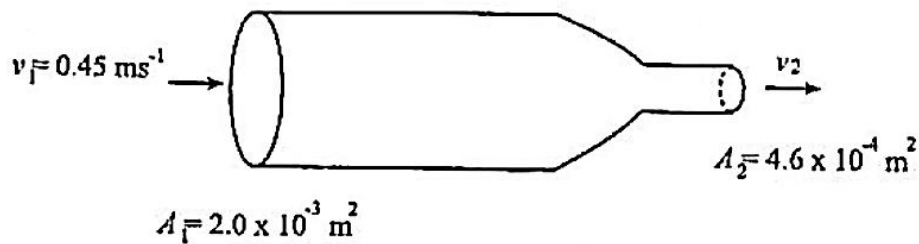

Fig. 4.1
- (ii) The end E of the tube in Fig. 4.1 can be adjusted to further reduce the cross-sectional area at this part.
- (b) Fig. 4.1 shows oil of density 800 kg m^{-3} flowing through a horizontal tube.